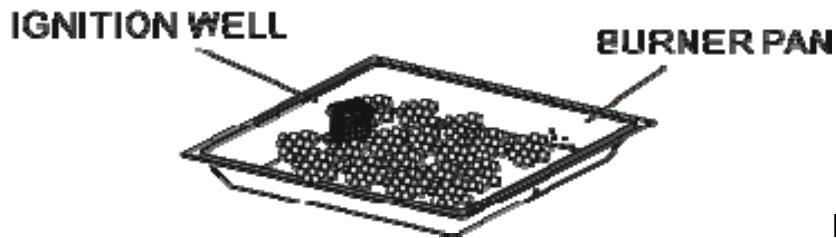

Figure 6
5. Pour ALL of the media (fire ice or lava rock) into the burner pan. The burner MUST be completely covered to ensure the appliance functions properly and safely. Remove any lava rocks or fire ice on top of the ignition well. See figure 6.